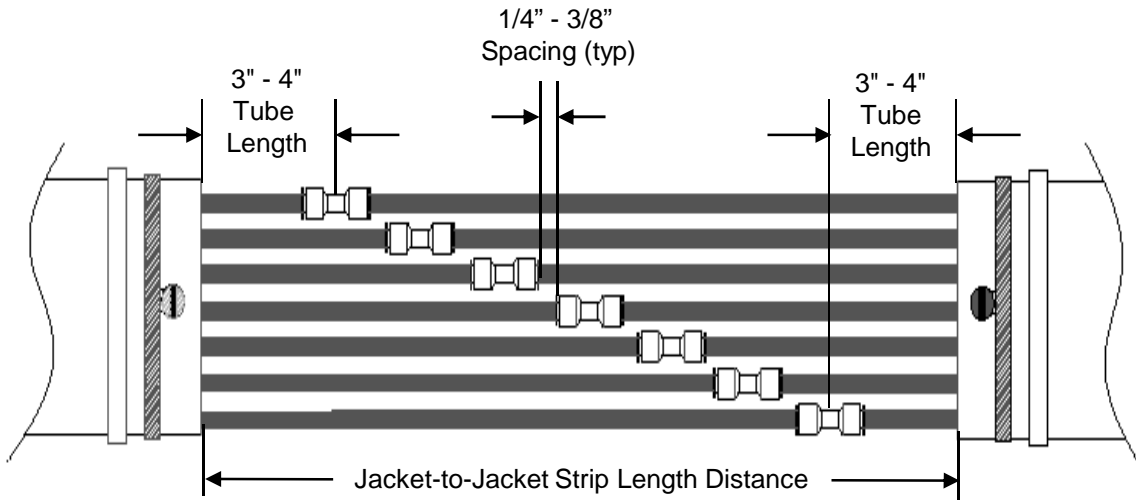

Figure 1
5.1 **See Fig. 1** for the recommended layout of an in-line tube cable splice.